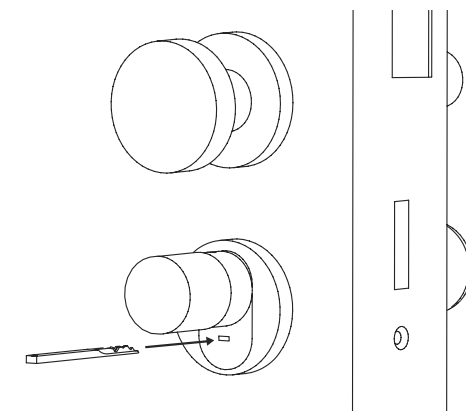

Fig. 11
- 1 To open the lock, open the emergency key at the joint and then insert it through the indicated slot on the emergency lock cover (Fig. 11).
- 2 Turn the key 90 degrees clockwise. If required, move the outside knob slightly to the right and left in order to release the mechanism. The lock is open after at least two full turns of the cylinder knob.